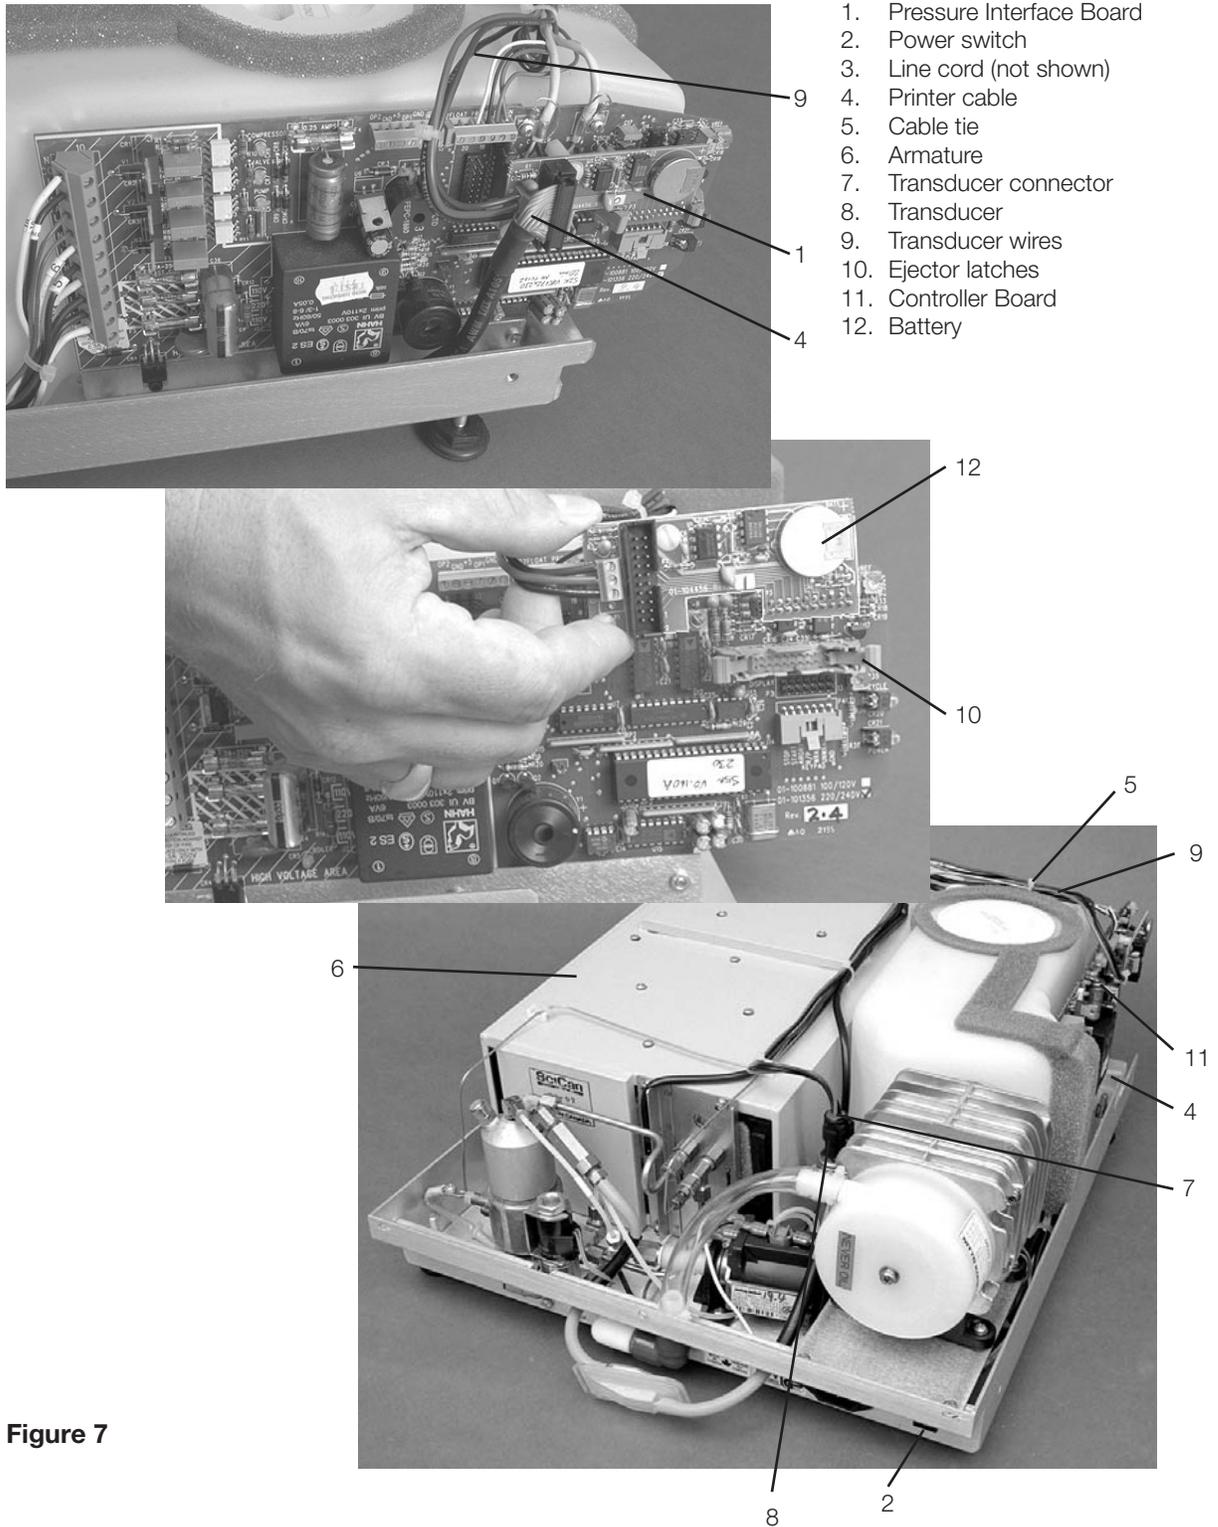

Figure 7
To remove the Pressure Interface Board (1), proceed as follows (see Figure 7):
1. Turn the power switch (2) **OFF**, and unplug the power cord (3) (not shown).
2. Disconnect the printer cable (4) (if present) from pressure interface board connector P2.
3. Disconnect the transducer wires (9) from pressure interface board terminal positions P1-1 'SIG' (blue wire, signal), P1-2 'V+' (red wire V+) and P1-3 'GND' (black wire, ground).
4. Press the ejector latches (10) of controller board (11) connector P2 to unseat the pressure interface board and remove the board.
To reinstall the pressure interface board (1), proceed as follows (see Figure 7):
1. Orientate the pressure interface board with the component side of the board facing away from the controller board (11) and the P2 connector on the left-hand side. Gently seat the pressure interface board onto the controller board P2 connector until the ejector latches are in an upright position. Do not crush or pinch the thermocouple leads. Support the controller board to avoid excessive deflection when pressing the interface board onto the connector.
2. Connect the transducer wires (9) to Pressure Interface Board terminal positions P1-1 'SIG' (blue wire, signal), P1-2 'V+' (red wire V+) and P1-3 'GND' (black wire, ground).
3. Connect the printer cable (4) (if present) to the pressure interface board connector P2. Ensure that Pin 1 of the keyboard cable aligns with Pin 1 of pressure interface board P2.
4. Plug in the power cord (3) (not shown) and turn the power switch (2) **ON**.
To remove the battery (12), proceed as follows (See Figure 7 and 8):